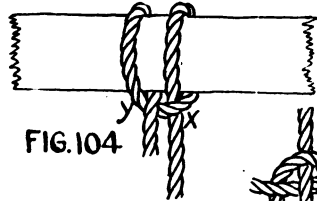

FIG. 104
**Magnus Hitch.** The magnus hitch is useful in securing a rope to a spar as there is but little tendency for it to slip end-wise. Pass the end of the rope around the spar in front of the standing part  $x$ , around the spar again on the other side of the standing part and then through the bight  $y$  last formed (fig. 104).